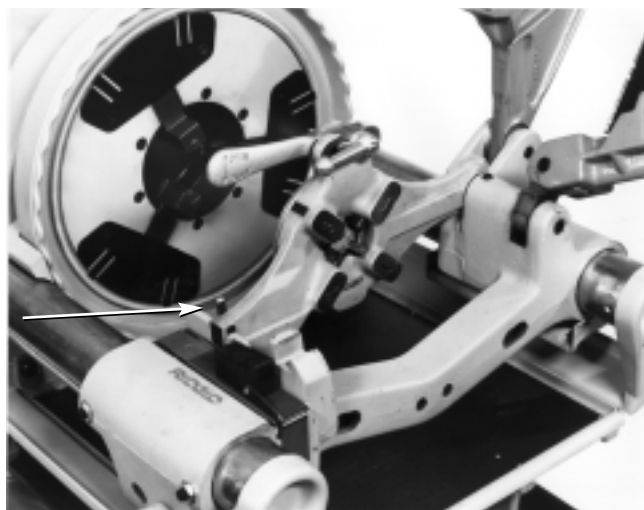

Figure 8 – Release Latch On Left-Hand Die Heads
9. Release latch on 713 or 913 die head (*Figure 8*) and swing die head to UP position.